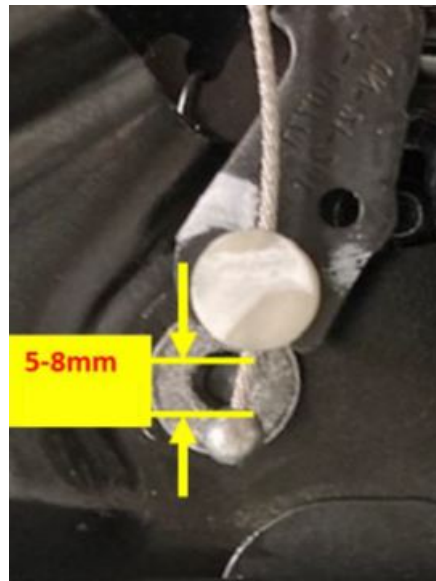

Fig. 5
12. Check if the cables are adjusted properly. The cable end should be 5 to 8 mm past the fitting (Fig. 5) .